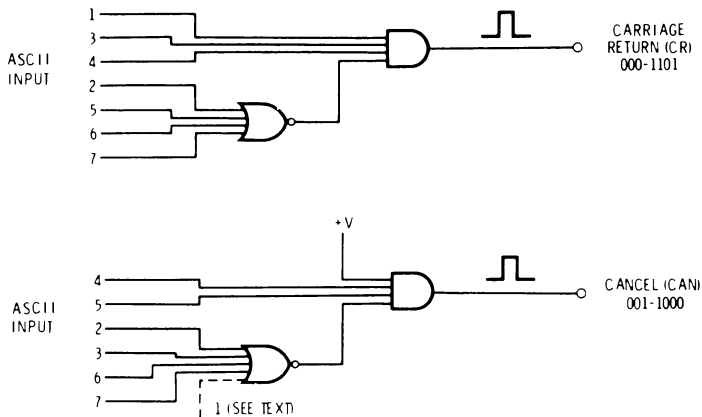

Fig. 9-13. Decoding ASCII control functions.
The obvious way is to invert all the zeros and route them to a seven-input AND gate along with the ones. But, as usual, obvious isn't best. Instead, we use our deMorgan equivalence to negative-logic-NAND the zeros (with a NOR gate) and positive-logic-AND the ones with the NAND output. As Fig. 9-13 shows, the Carriage Return (CR) decoding is very simple.